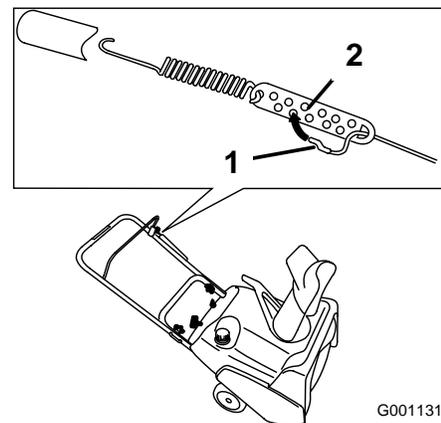

Figure 22
2. Move the Z-fitting to a higher or lower hole in the adjuster link as needed to obtain the 1/16 to 1/8 inch (2 to 3 mm) gap between the control bar and the handle (Figure 22).